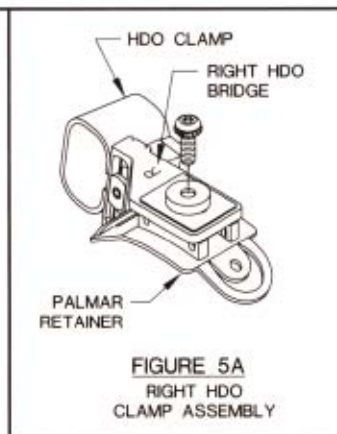

FIGURE 5A
- 4) Reassemble as shown in **Figure 5A** for right hand. **5B** for left. Be sure that HDO bridge is oriented toward ulnar side.